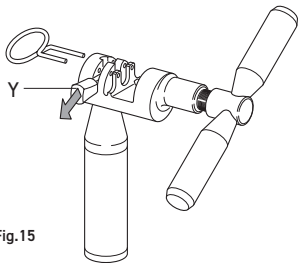

Fig.15
- Prepare the tool **UT-CN400** by positioning the tongue in closure mode (Y - Fig. 15).